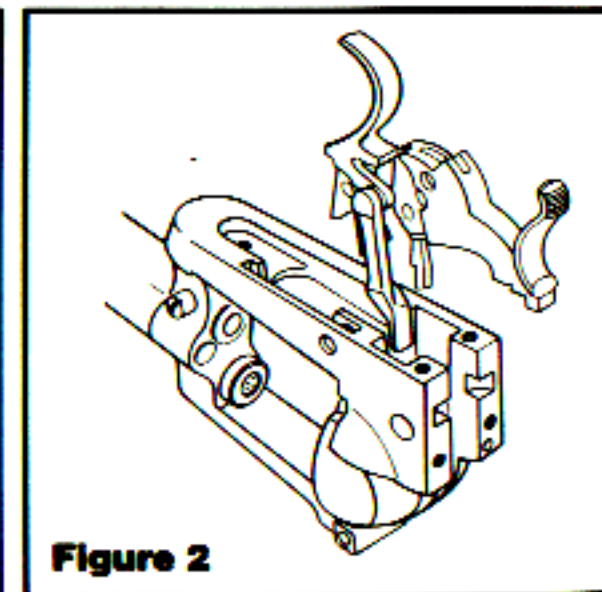

Figure 2
10. Remove hammer pivot. Then remove the hammer/pawl assembly and the trigger/transfer bar assembly. (Note that the hammer is attached to the pawl and the transfer bar is attached to the trigger. See Figure 2.)
1. Assemble pawl to hammer and transfer bar to trigger as shown in Figure 2. Partially insert hammer/pawl assembly in its recess in the frame. Insert trigger/transfer bar assembly in its slot in the frame. Then simultaneously complete insertion of the two assemblies into the frame.